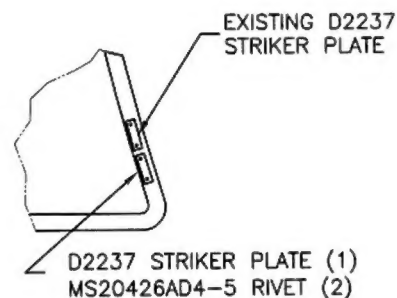

FIGURE 3. STRIKER PLATE INSTALLATION
6. INSTALL D2237 STRIKER PLATE IN ACCORDANCE WITH FIGURE 3.